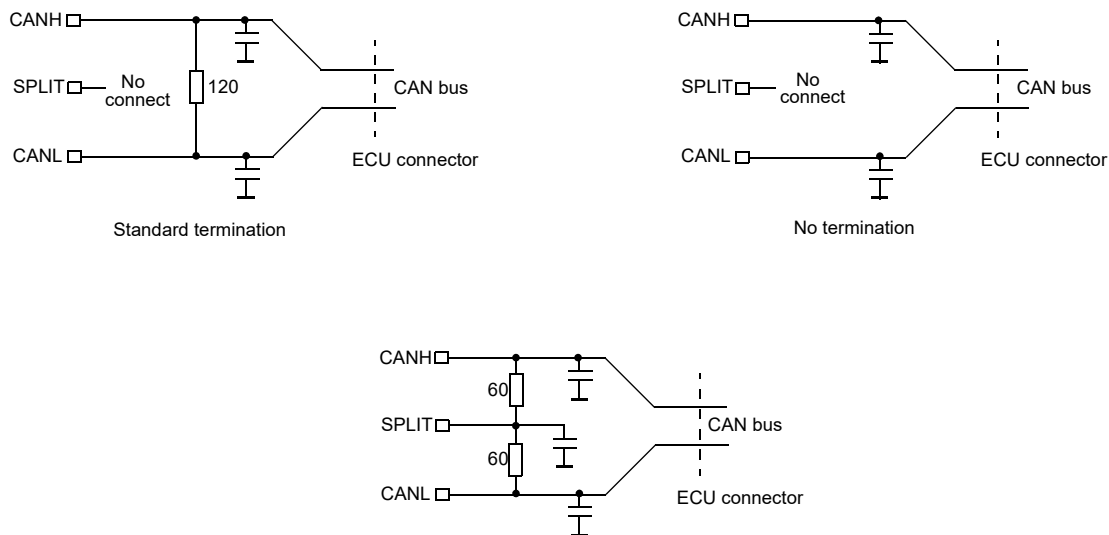

Figure 37. Bus termination options
- Figure 37 illustrates some of the most common terminations.